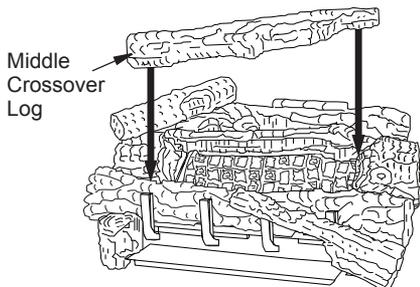

Figure 48 - Installing Middle Crossover Log
11. Rest the middle crossover log (18" D-070, 24" & 30" D-044) onto the right middle log and the left front log (see Figure 48). Make sure to match the projection on the bottom of the crossover log with the recess area in the right middle log and the left front log.